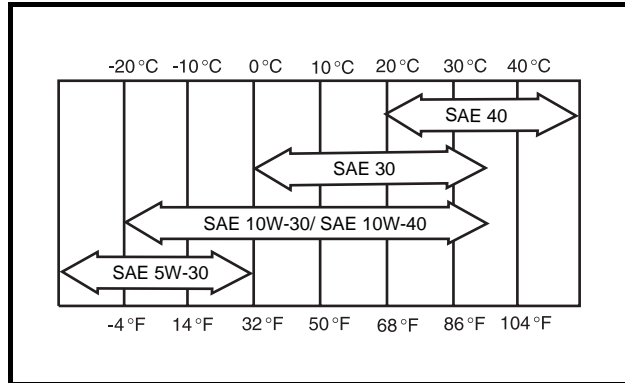

Figure 26 Oil Viscosity Chart
13. Remove the dipstick and add engine oil into the dipstick port. Use a funnel or pour spout to direct the oil into the dipstick port. With filter change, the engine requires 38 ounces (1.12 liters) of oil per change. Refer to oil viscosity guidelines for selection of oil grade (**Figure 26**). Replace the dipstick.
Choose the viscosity according to the temperature as indicated by the oil viscosity chart (**Figure 26**). See following **NOTE**.